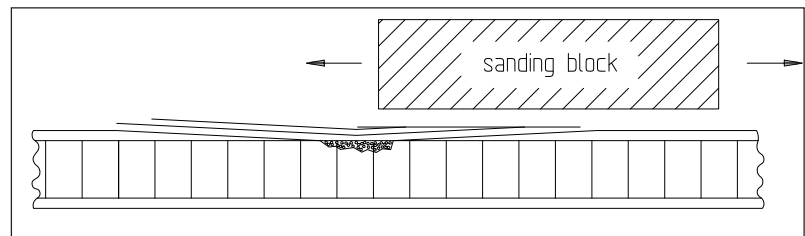

Figure 7 Level Sanding of Surrounding Area
**Sand only the edge thickness of repair laminate (refer to figure 7)!**